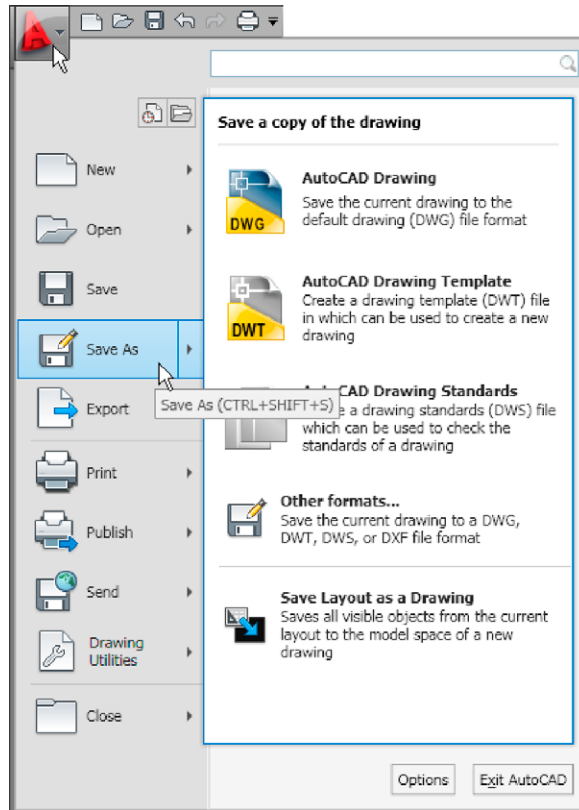
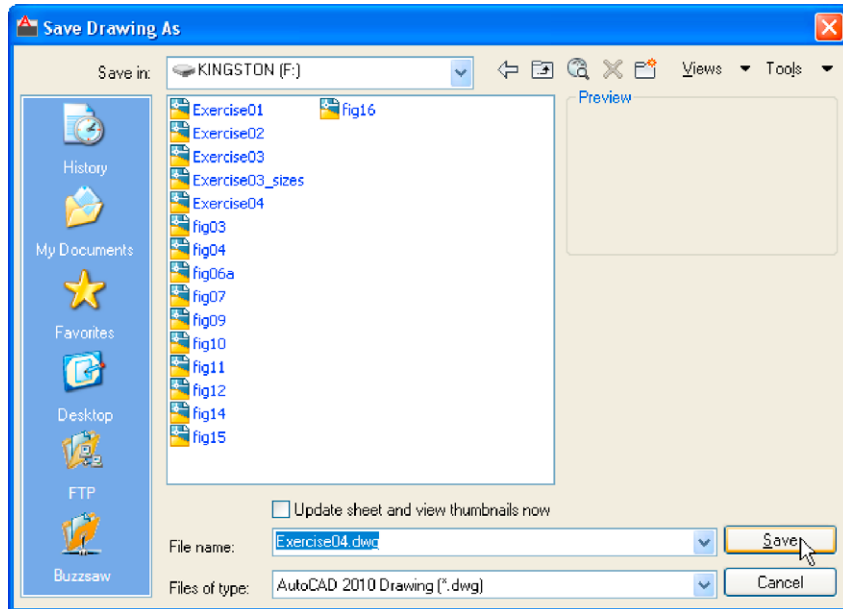

Fig. 3.9 Selecting **Save As** from the **Quick Access** menu
Fig. 3.10 The **Save Drawing As** dialog
Before going further it is as well to know how to save the drawings constructed when answering examples and exercises in this book. When a drawing has been constructed, *left-click* on **Save As** in the menu appearing with a *left-click* on the AutoCAD icon at the top left-hand corner of the window (Fig. 3.9). The **Save Drawing As** dialog appears (Fig. 3.10).
4. *Left-click* the **Save** button of the dialog. The drawing will be saved with the file name extension **.dwg** – the AutoCAD file name extension (Fig. 3.10).